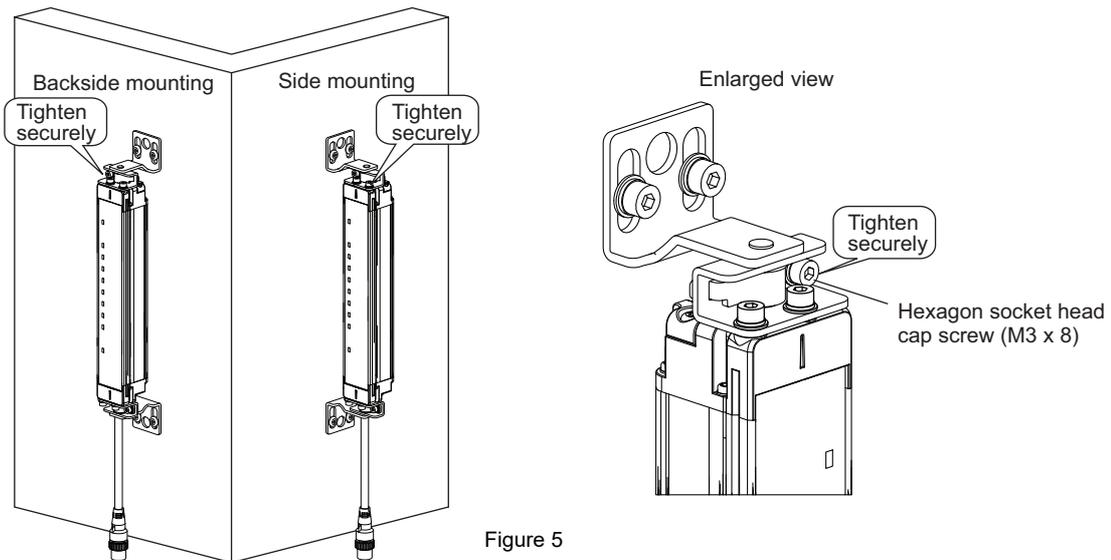

Figure 5
- Tighten the lightly tightened hexagon socket head cap screws (M3 x 6) of the Top/Bottom Brackets. (Figure 5)